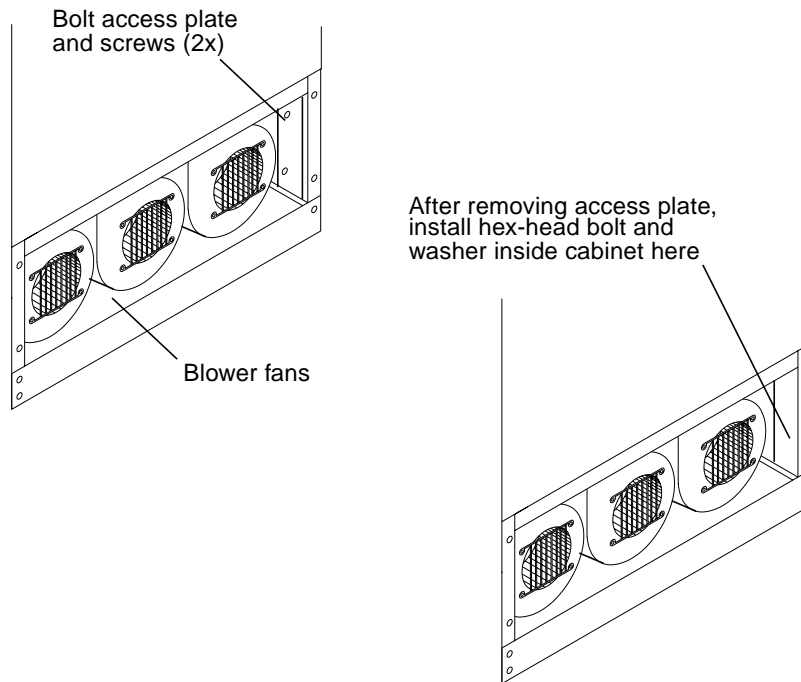

FIGURE B-7 System Cabinet Front, Bolt Access Plate and Screws
7. At the bottom right of the cabinet blower, remove the two Philips screws securing the bolt access panel. Set the plate and screws aside. See FIGURE B-7.